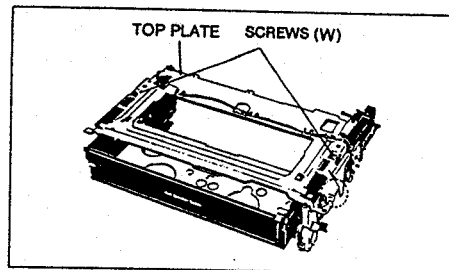

FIG. D19
2. Remove the 2 screws (W) as shown in FIG. D19.
10. Reinstall the top plate as just the reverse way of item 3, FIG. D19.